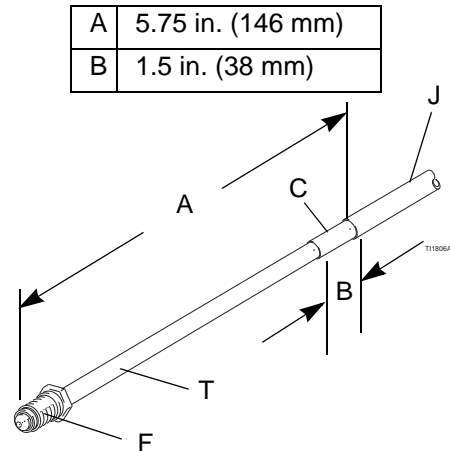

FIG. 6 . Waterborne Hose Dimensions
2. For the waterborne fluid hose to fit properly, it must be stripped and assembled to the dimensions shown in FIGURE 6. Apply dielectric grease to the inner tube (T) of the hose. Slide the fitting (F) onto the tub (T). Press the barbed fitting (G) into the tube until its shoulder bottoms on the tube. A new Graco